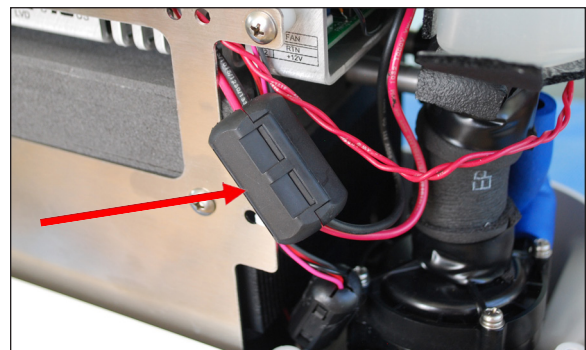

Figure 103 - Step 4 Install EMI suppressor
4. Install the EMI suppressor on the control board power wire that goes to J2 (Figure 103).